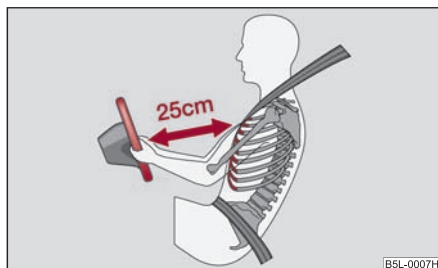

Fig. 123 Safe distance to steering wheel
- The driver must maintain a distance of at least 25 cm to the steering wheel ⇒ fig. 123. Not maintaining this minimum distance will mean that the airbag system will not be able to properly protect you – hazard!